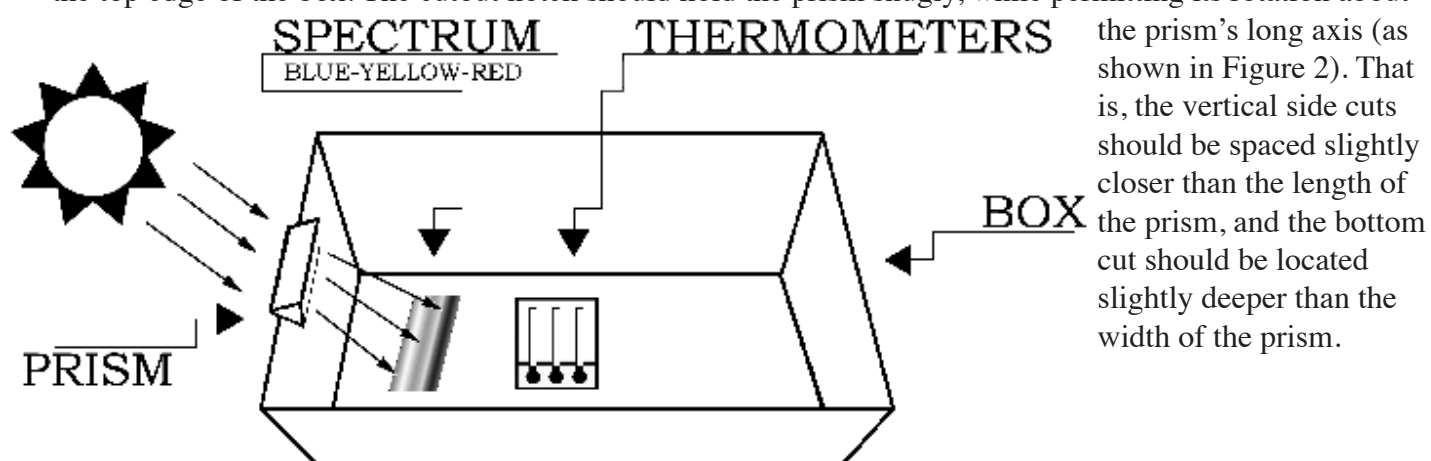

Figure 1
3. After the paint has completely dried on the thermometer bulbs, tape the thermometers together such that the temperature scales line up, as in Figure 1.